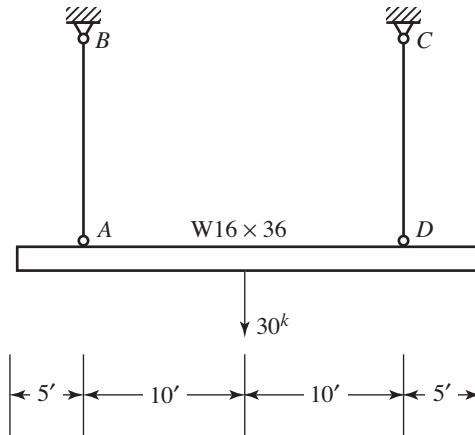

FIGURE P3.7-2
- 3.7-2** A $W16 \times 36$ is supported by two tension rods AB and CD , as shown in Figure P3.7-2. The 30-kip load is a service live load. Use load and resistance factor design and select threaded rods of A36 steel for the following load cases.